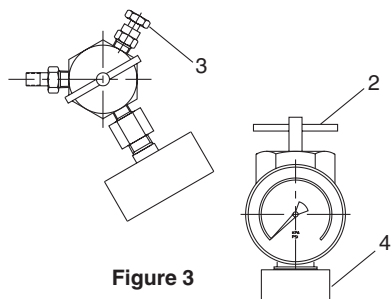

Figure 3
- Refer to Figure 3. Turn the charging device "T" handle (2) all the way in (clockwise) attach charging and gauging head assembly by screwing mounting nut (4) to the gas end of the Diaphragm accumulator.
- Close bleed valve (3).
- Turn "T" handle (2) in counterclockwise motion until rotation stops.
- When finished checking the precharge, turn "T" handle (2) clockwise all the way, then open bleed valve (3) to bleed all residual pressure from the charging device.
- Hold "T" handle (2) to keep from turning, loosen nut (4), remove the assembly from the accumulator.
For accumulators having gas valve as shown in Figure 5, attach gauging assembly as shown in Figure 3 following Steps A through D. Then, open bleed valve (3) until all gas pre-charge is relieved from accumulator. Then remove gauging assembly. The accumulator is now safe to remove from the system.